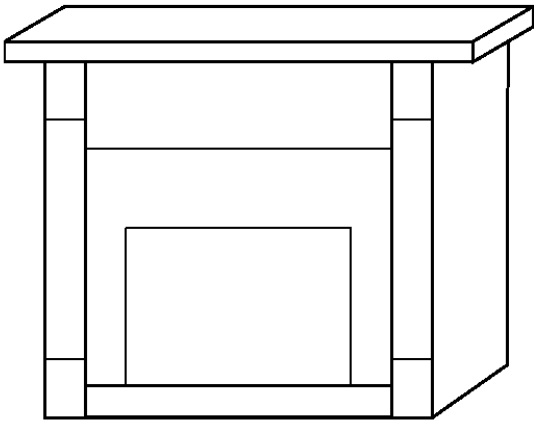

FIGURE 6
4. Push the Fireplace into place so that the trim is against the finished Mantel Surround or wall surface. (FIGURE 6)